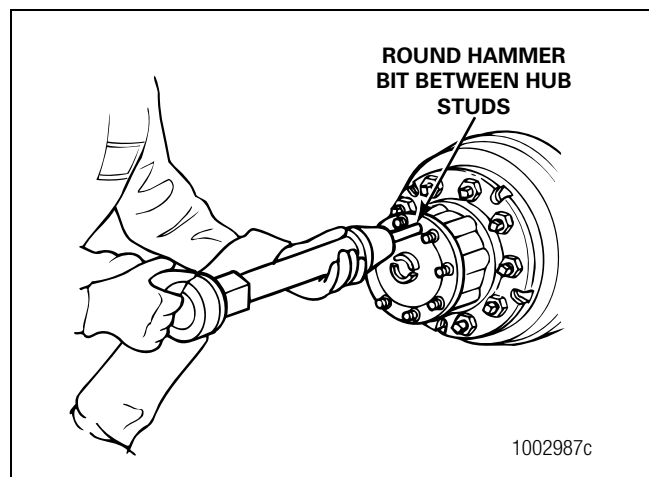

Figure 3.4
2. Place the round hammer bit against the axle shaft or flange between the hub studs. Operate the air hammer at alternate locations between the studs to loosen the tapered dowels and axle shaft from the hub. Figure 3.4.
4. Remove the tapered dowels and separate the axle shaft from the main axle hub assembly. Figure 3.4.